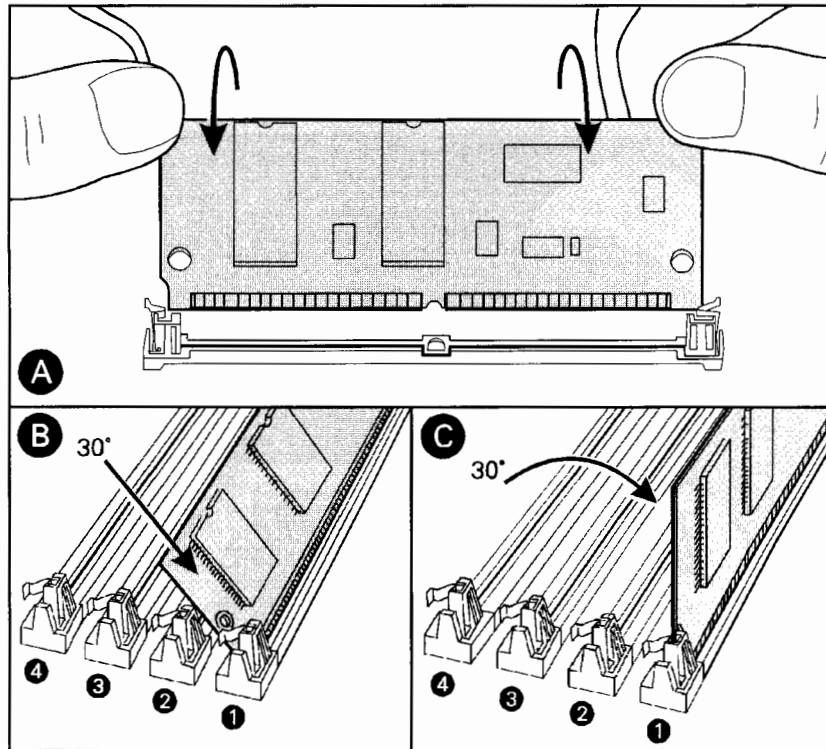

Figure 1-7. Installing the Board
12. Hold the board at a 30 degree angle and use your thumbs to *firmly* push it into the slot as shown in Figure 1-7 (Illustration Ⓑ shows the angle of the board during insertion, and illustration Ⓒ shows horizontal placement when seated.) Push the board into the back of the slot to fully seat it. Then, rotate the board down until the clips on the edges of the slot snap into place. You will feel and hear a “click” when the board snaps into place.